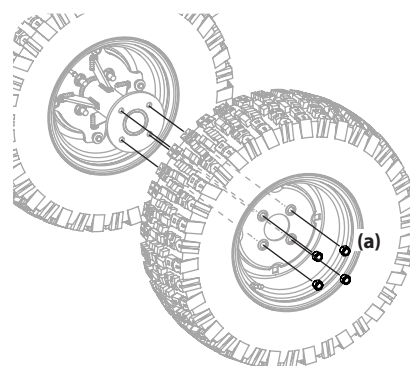

Figure 4-14
- Remove the four outer lug nuts (a) to remove the outer wheel. See Figure 4-14.